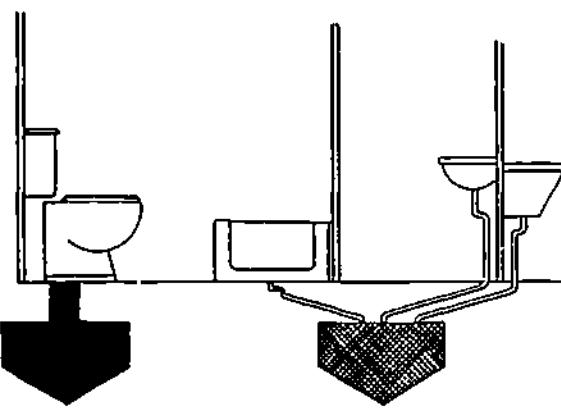

Figure 37-25. Conventional Gravity System
83. The conventional gravity system uses the standard flush toilet, which requires from 18 to 23 L of clean water for each flushing. This high volume is needed to flush the solids through the gravity sewer mains, and accounts for at least 50 per cent of the total household water consumption. (See Figure 37-25.)
92. This type of installation (Figure 37-29) is usually made where sewage treatment must be done locally. Through the use of the vacuum toilet, the highly contaminated black water, when collected separately, is reduced to 5 per cent of the sewage volume in a conventional gravity system (refer to Figure 37-25).